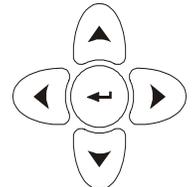

Figure 2.4
- If remote keypad: Press either Lens H ◀ ▶ or Lens V ▲ ▼ (Figure 2.4).